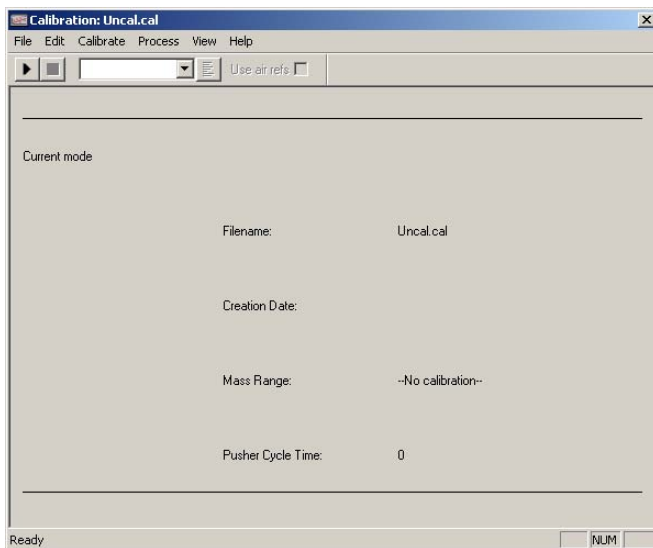

Figure 3-6 Calibration Window with Uncal.cal Loaded
4. From the calibration window select File > Open and load Uncal.cal from the Open dialog box (Figure 3-6) to remove any previous calibration.